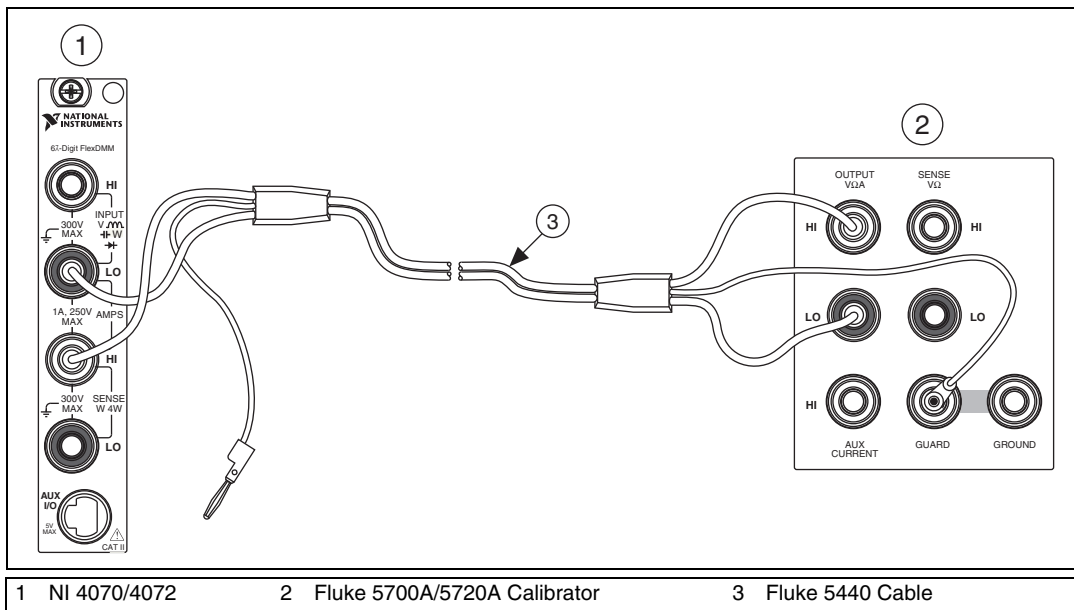

Figure 4. Cable Connections for Current
2. Fasten the connectors on one end of the Fluke 5440 cable to the NI 4070/4072 *HI SENSE* and *LO* banana plug connectors, and connect the connectors on the other end of the cable to the *HI* and *LO* calibrator binding posts. Figure 4 shows the correct connections. Table 10 lists the cable connections.
2. Fasten the connectors on one end of the Fluke 5440 cable to the NI 4070/4072 *HI SENSE* and *LO* banana plug connectors, and fasten the connectors on the other end of the cable to the *HI* and *LO* calibrator binding posts. Figure 4 shows the correct connections. Table 10 lists the cable connections.